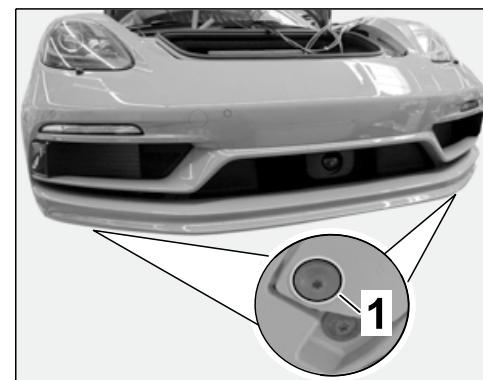

Figure 31
5.13.2 Secure spoiler lip with new tapping screws (999.073.227.09)  $\Rightarrow$  Figure 31 -1-.